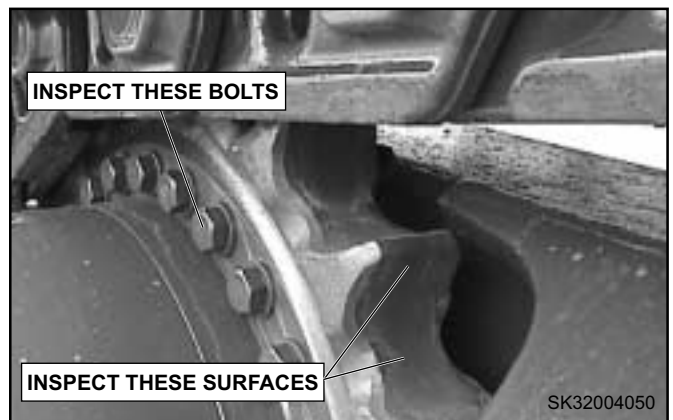

FIGURE 4.19B
- a. Inspect sprockets for excessive wear and damage. See Figure 4.19B.